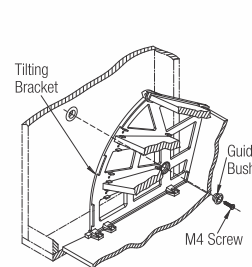

Fig.2
2. Join left and right Tilting Brackets with wooden flats. Use Guide Bush through the Tilting Brackets to screw on to the Fixed Bush on either side with M4 screws provided. (Ref. Fig. 2)